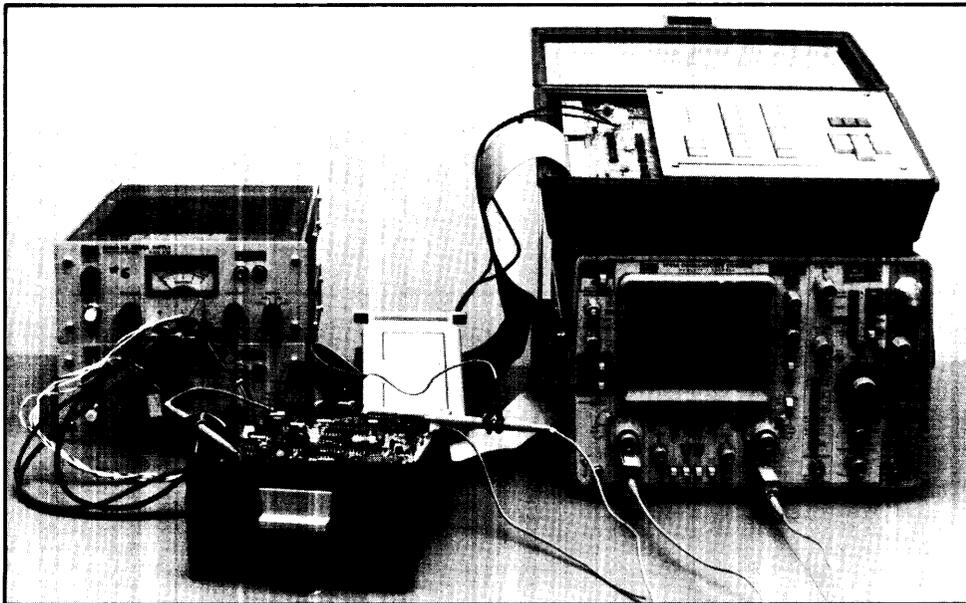

Figure 5-3: 9130K Test Setup
The 9130K flexible disc drive must have power applied and the DSU and adapter connected to perform the following adjustments (refer to Figure 5-3). do not power the DSU with the host systems +5VDC supply or damage to the host system may result.
1. Connect the equipment as shown in Figure 5-3 and apply power.
1. Connect the equipment as shown in Figure 5-3.
2. Connect the equipment as shown in Figure 5-3.